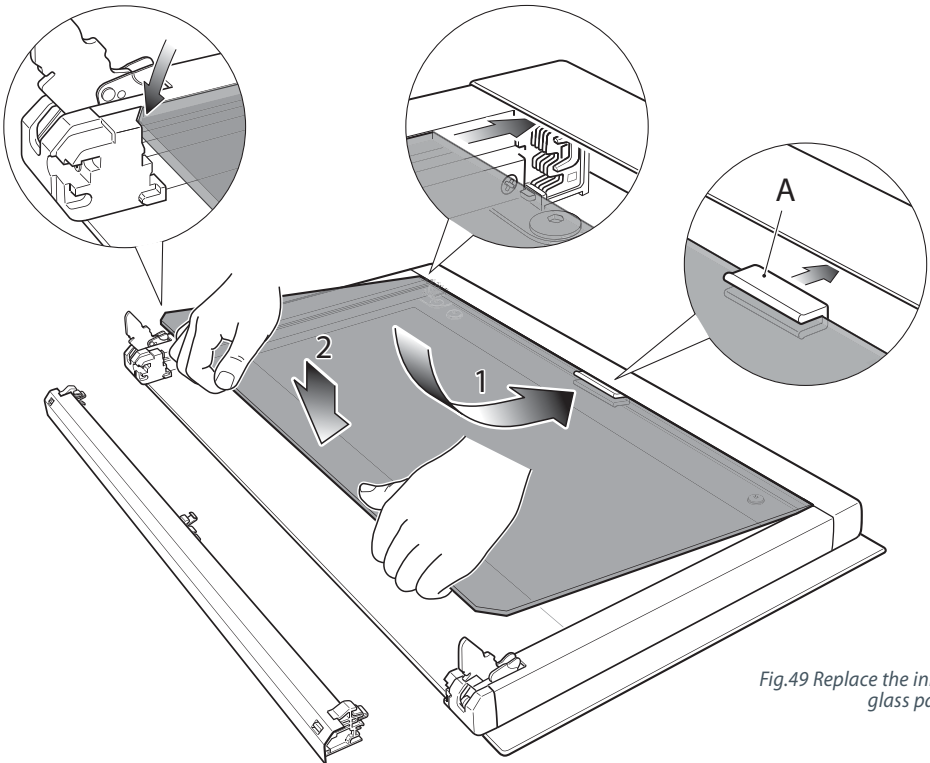

Fig.49 Replace the inner glass pane
- Check that the gasket 'A' is in place (Fig. 49). If not, correctly place the gasket in the top edge of the inner glass (in the centre).
- 1 Insert the inner glass pane in the uppermost pair of grooves and push it slightly (arrow 1 in figure 49).
- 2 Gently lower into place (arrow 2 in figure 49).